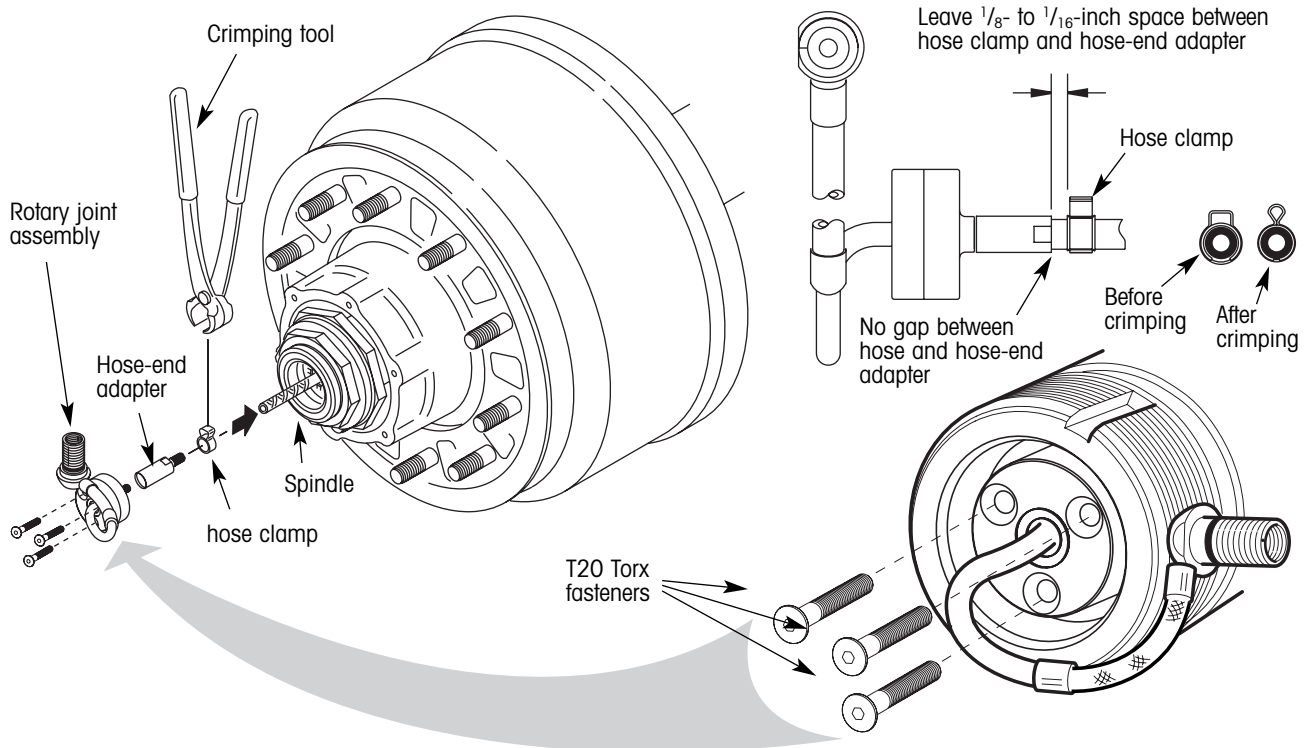

Figure 13. Rotary joint installation
1. On one end of the axle, place the hose clamp onto the braided axle hose sticking out of the spindle plug (figure 13).
2. Slide the barbed end of the hose-end adapter completely into the end of the braided hose assembly until the hose bottoms on the adapter. There must not be any gap between the hose and the hose-end adapter (figure 13).
3. Position the clamp over the barbed end of the hose-end adapter. Leave a $\frac{1}{8}$ - to $\frac{1}{16}$ -inch space between the clamp and the hose-end adapter as shown in figure 13. Using a crimping tool (Oetiker® pliers), squeeze the clamp to tighten the hose to the hose-end adapter. The clamp inner surfaces must touch for a proper seal (figure 13). Continue with step 4.
6. Insert the three T20 Torx fasteners into the rotary joint assembly and fasten to the spindle plug (figure 13). Tighten the fasteners to 45 ± 5 in. lbs. ($5 \pm \frac{1}{2}$ N•m) of torque.